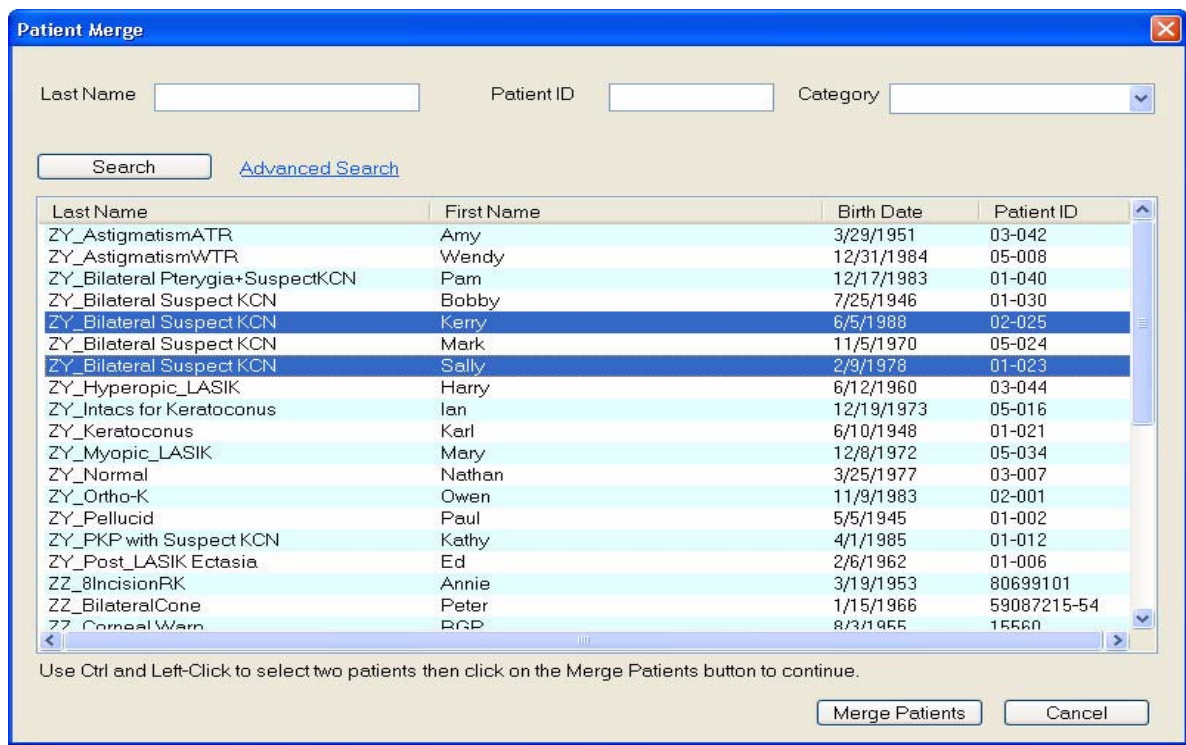

Figure 9-12 Patient Merge – Two Patients Selected
1. Select the two patients you wish to merge. You must hold down the **Ctrl** key while clicking (**Ctrl-click**) the second patient. The **Merge Patients** button will not be active unless exactly two patients are selected (Figure 9-12).